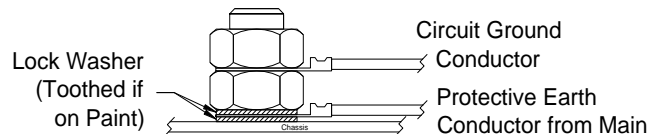

Figure 8 N4X Protective Earth Connector
- b. Locate the ground terminal on the back plate of the N4X enclosure (Figure 8).